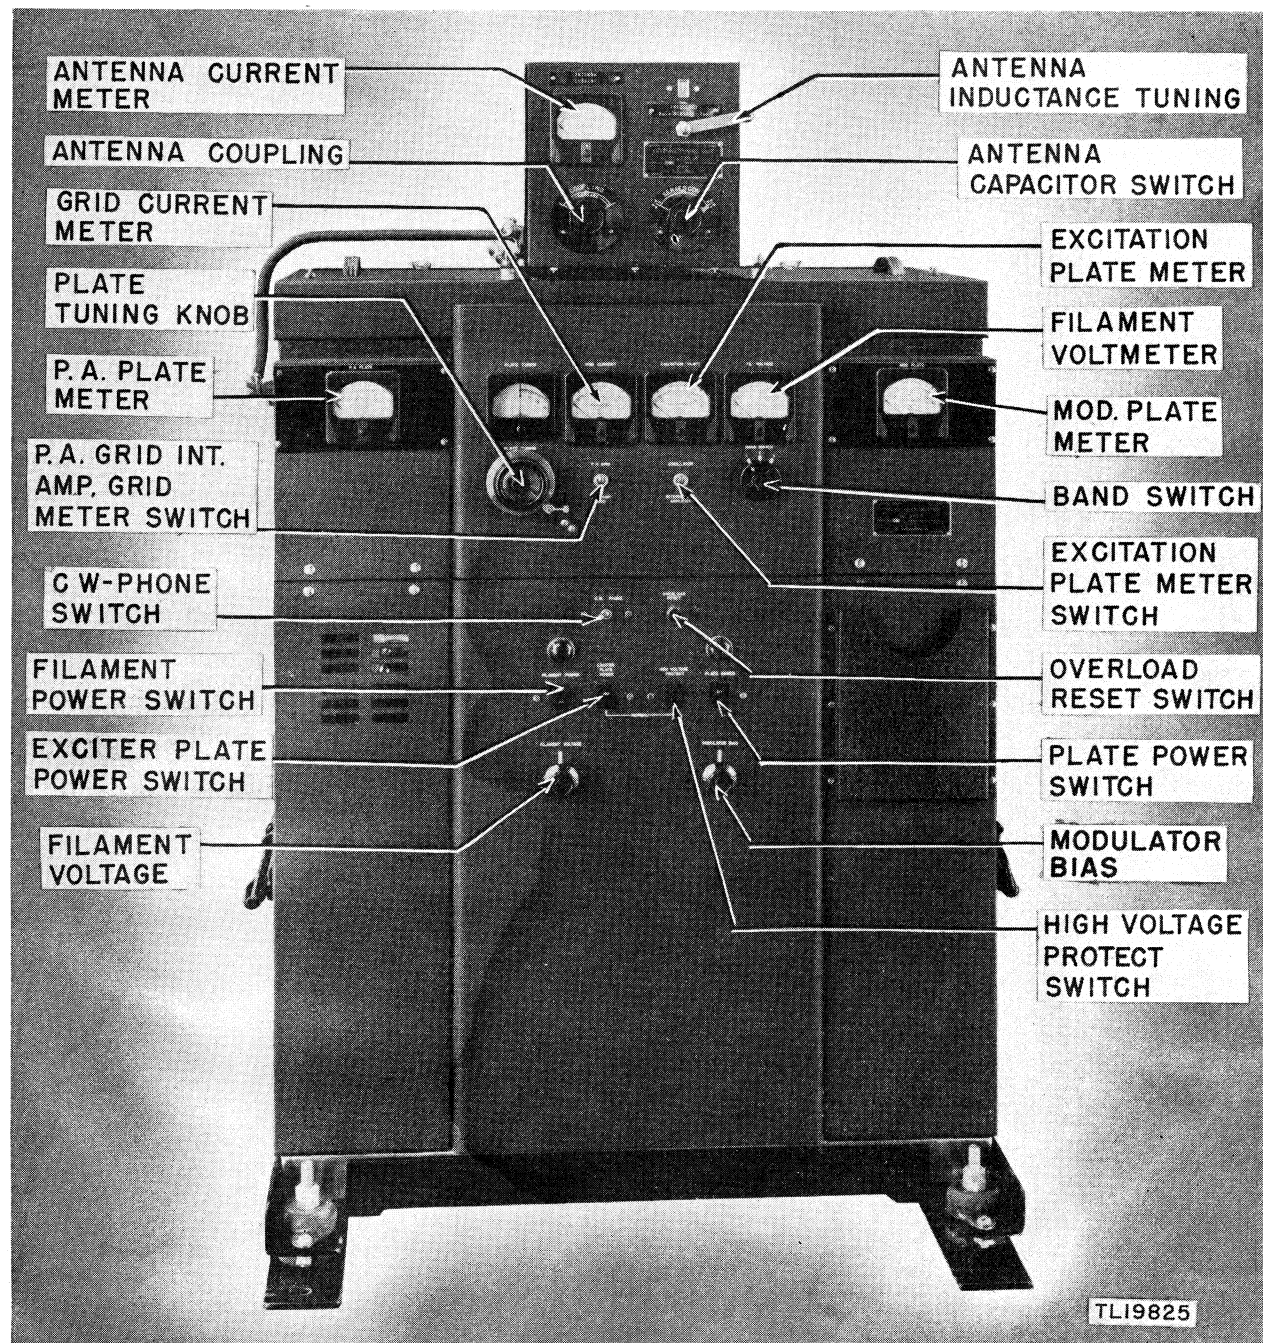
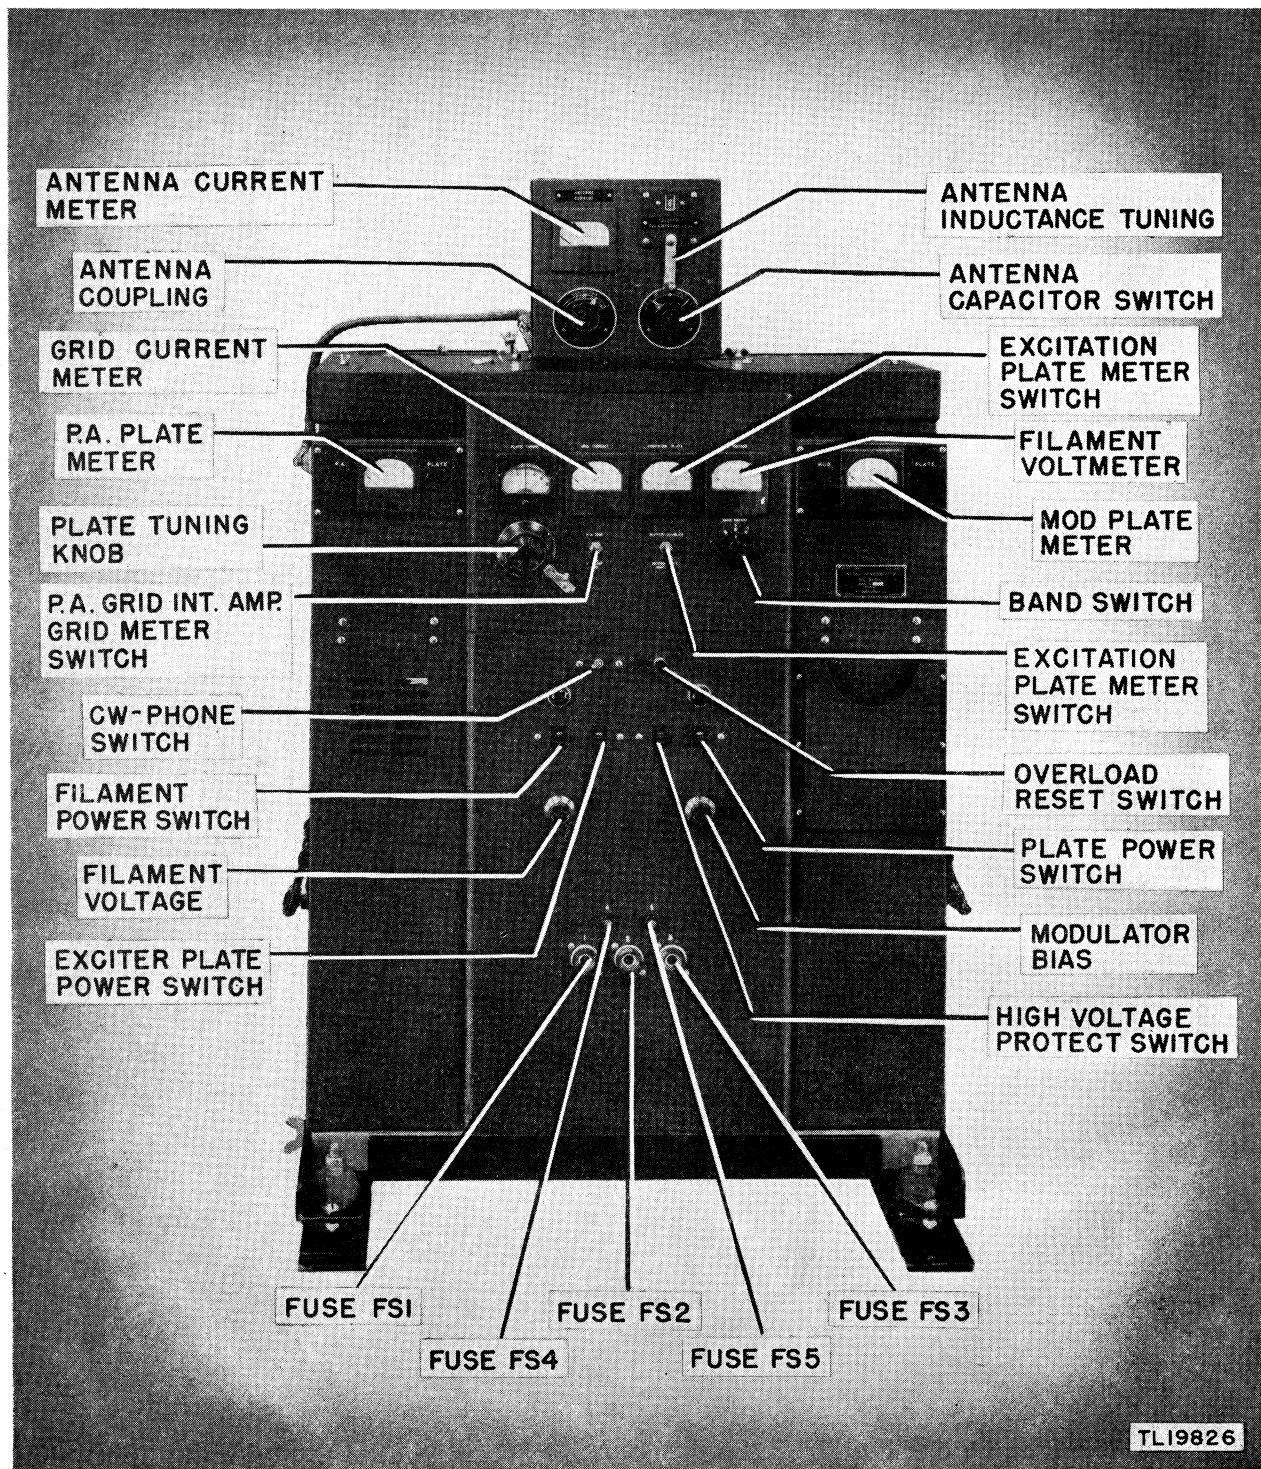
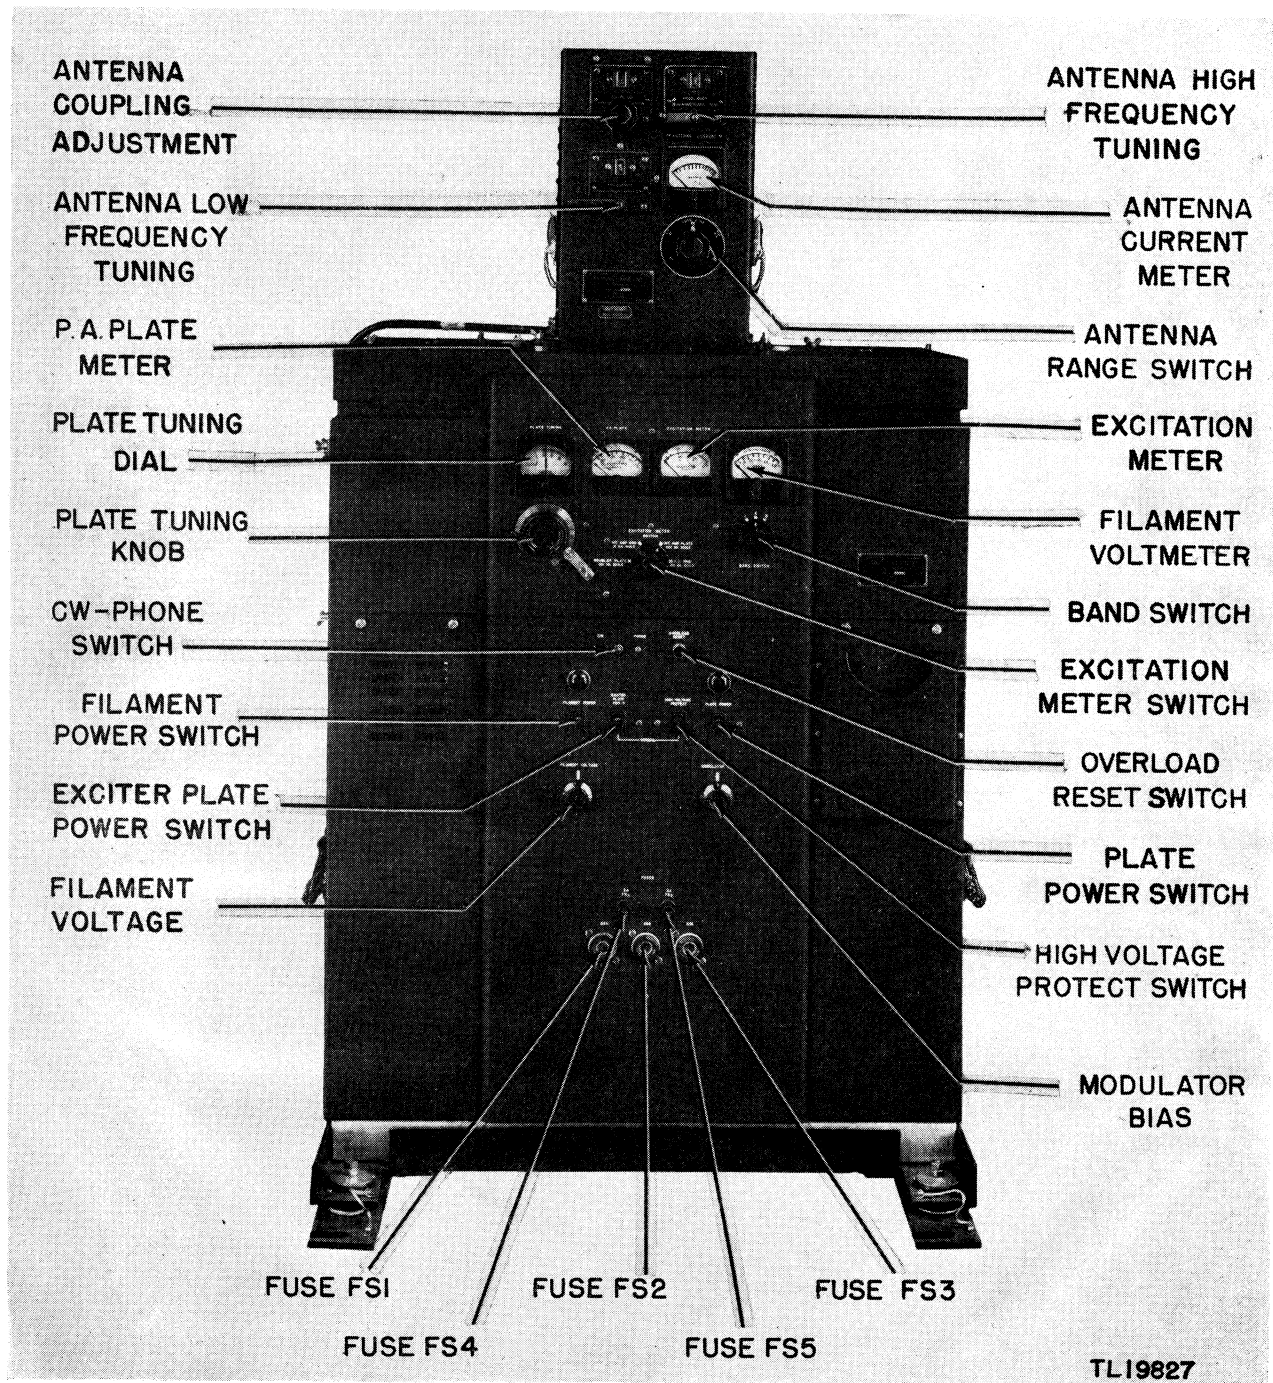

Figure 1. Radio Transmitter BC-610-A, -B, and -C with Antenna Tuning Unit BC-729-(*), front view.
Figure 2. Radio Transmitter BC-610-D with Antenna Tuning Unit BC-729-(*), front view.
Figure 3. Radio Transmitter BC-610-E with Antenna Tuning Unit BC-939-A, front view.
BC-610-A through -D are equipped with Antenna Tuning Units BC-729-(); model BC-610-E is equipped with Antenna Tuning Unit BC-939-A. These tuning units are mounted on top of, and are connected to, the transmitters to match their output to the antenna. (See figs. 1, 2, and 3.)
d. FRONT PANEL. On the upper part of the front panel are mounted the various meters and switches. On the lower section are mounted switches for handling power application, the CW-PHONE switch, a reset switch for the overload relay, and controls for setting the filament voltage and the modulator bias. In addition to these controls, Radio Transmitters BC-610-D and BC-610-E have all of their fuses mounted on this panel. (See figs. 1, 2 and 3.)
M4 is a modulator plate meter.	M4 is an antenna current indicator. (See fig. 3.) (See par. 9.)
M6 is an antenna current indicator (See figs. 1, and 2.) (See par. 9.)
FS1, FS2, FS3, FS4, and FS5 are located on the back of the chassis of the modulator section. (See fig. 1.) D These fuses are located on the lower section of the front panel. (See fig. 2.)	FS1, FS2, FS3, FS4, and FS5 are located on the lower section of the front panel. (See fig. 3.)